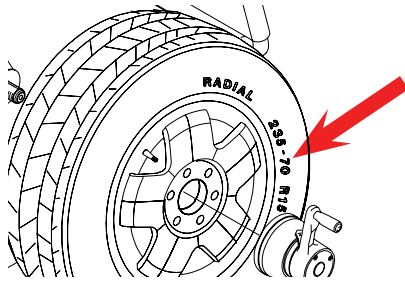

Figure 22
**4.5.3.0 Manual Rim Diameter Entry** - Select the Manual Diameter button. Read the rim diameter marked on the sidewall of the tire (Figure 22 and 23). Press the Diameter Button (D) and enter the measured rim diameter by selecting the +/- keys until the desired value appears in the display.